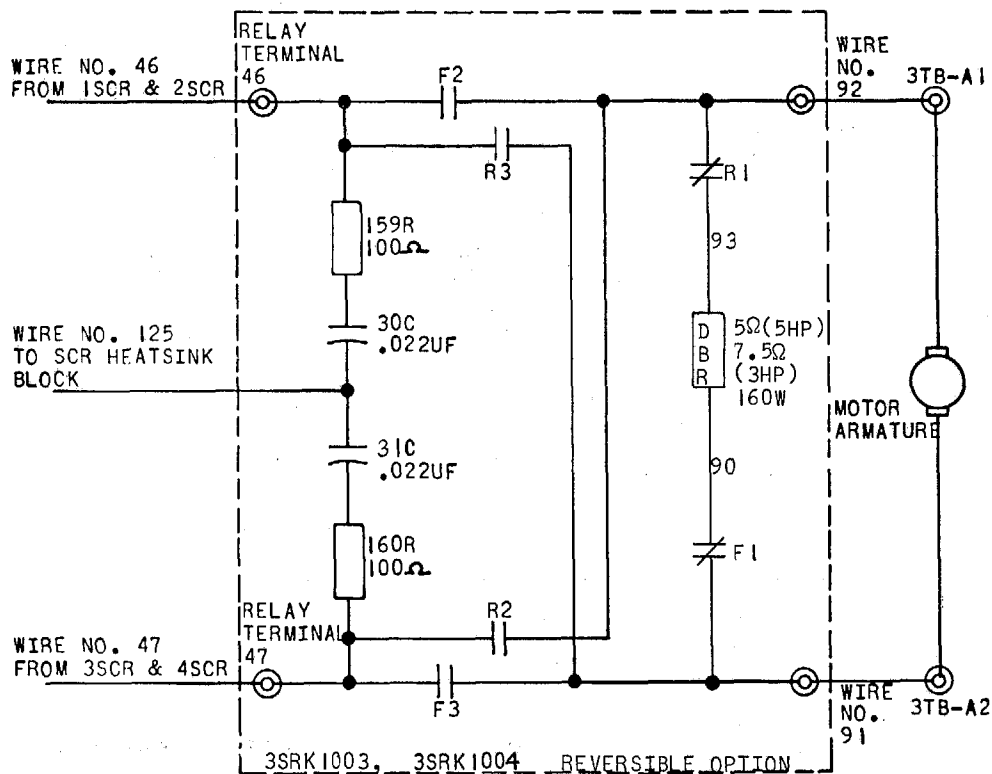
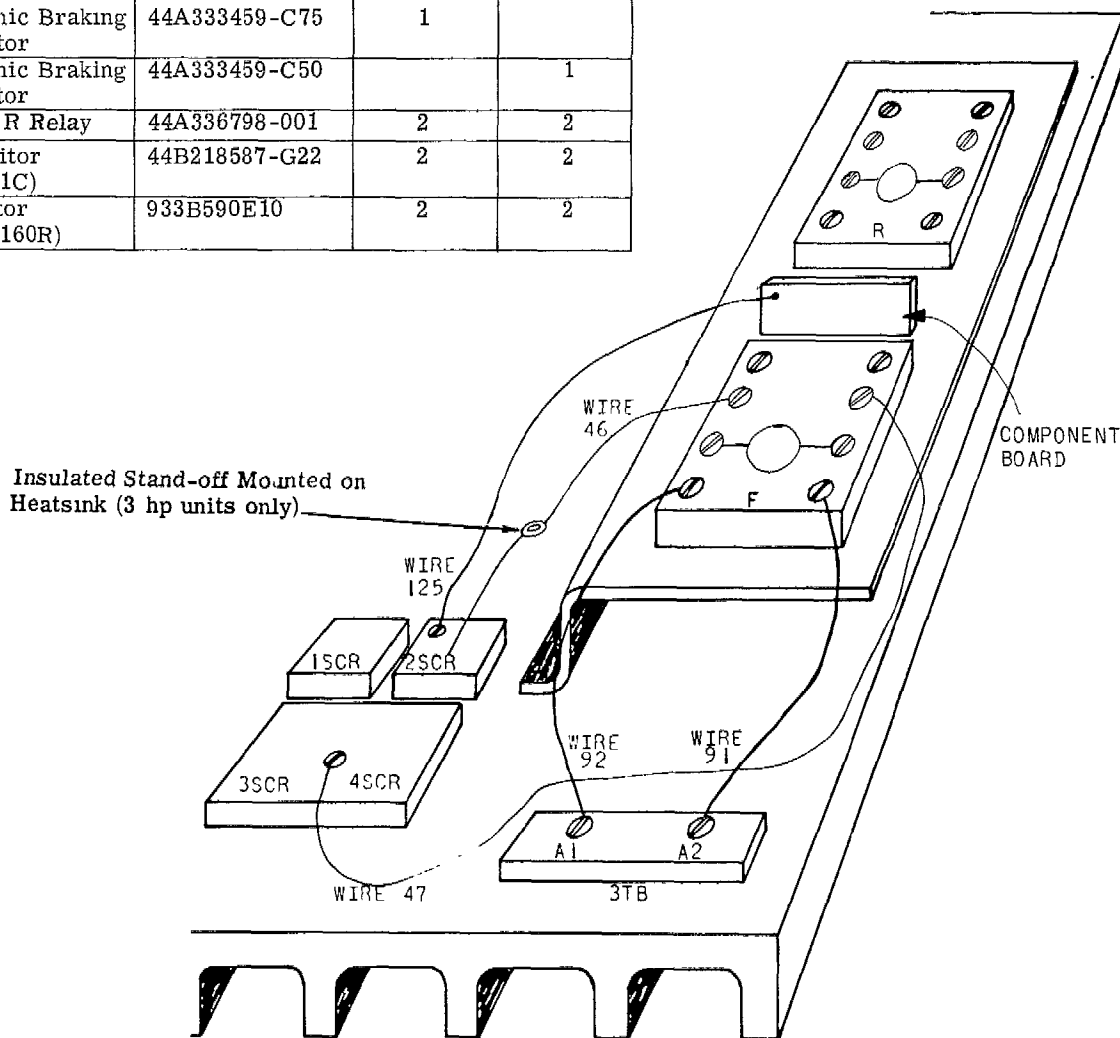

Figure 1. Motor Armature Circuit with 3SRK1003 Reversing Option Installed
Figure 2. Customer Connection Diagram for 3SRK1003, 1004 Reversing Option
For proper mounting location and orientation, refer to Figure 2 in instruction book GEK-36391, Hardware for securing the bracket to the controller chassis is provided with the option.
The motor armature circuit must be connected as shown in Figure 1. Refer to Figure 2 for terminal locations on the contactors. After the option has been mounted, proceed with the following connection sequence.
1. Locate wire number 46 (AWG 12) which runs from the SCR's to terminal 3TB-A1. NOTE: On 3 HP units, wire 46 runs from the SCR's to the insulated stand-off and then to 3TB-A1. Disconnect this wire from 3TB-A1 and connect it to contactor terminal 46 on the reversing option (see Figure 2).
2. Locate wire number 47 (AWG 12) which runs from the SCR's to terminal 3TB-A2. Disconnect this wire from 3TB-A2 and connect it to contactor terminal 47 on the reversing option (see Figure 2).
5. Locate wire number 125 (AWG 18) which is factory connected to the reversing option. Connect the free end of wire number 125 to terminal 125 on the SCR heat sink block as shown in Figure 2.